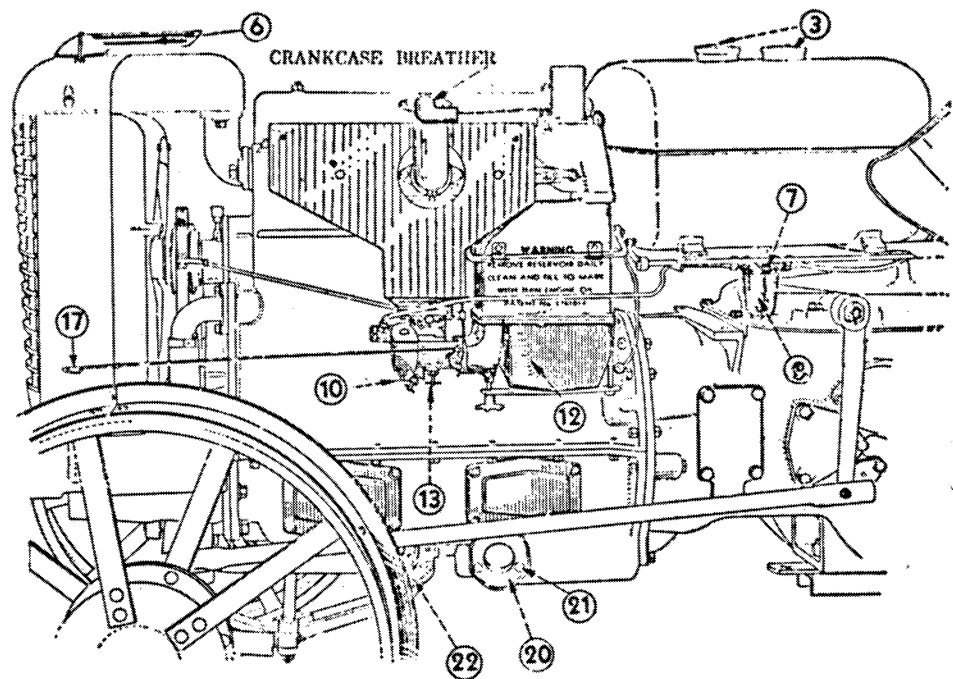

Fig. 3. L. H. Side of Case Model "D" Tractor
3. Fig. 3. Make sure that air vent holes in caps of fuel tanks are open.